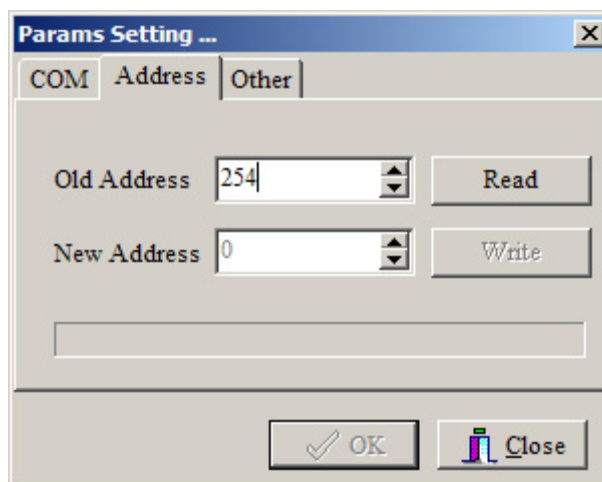
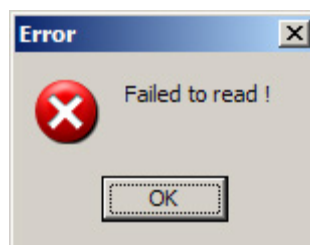

Fig. 4-5 POWER Address Set
Fig. 4-6 Communication Failure
In Fig. 4-5, enter the default address (254) of the power supply and then click "READ". If the address is read successfully, the "NEW ADDRESS" and "WRITE" function will be available. If testing fails, the new address of the power supply cannot be set. The error message as shown in Fig. 4-6 will be displayed. Check that the RS232 cable is properly connected.